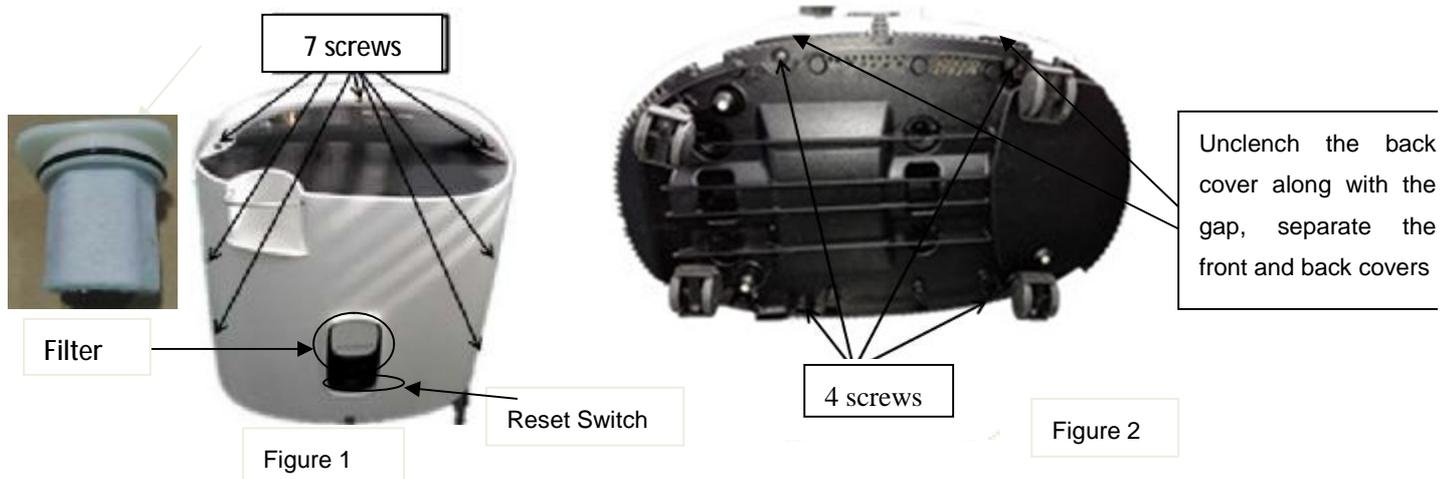

Figure 3
- Ø Pull out the alarm detecting wire, Two-core wire of switch and, and remove the back cover. (Figure 3,Figure 4)